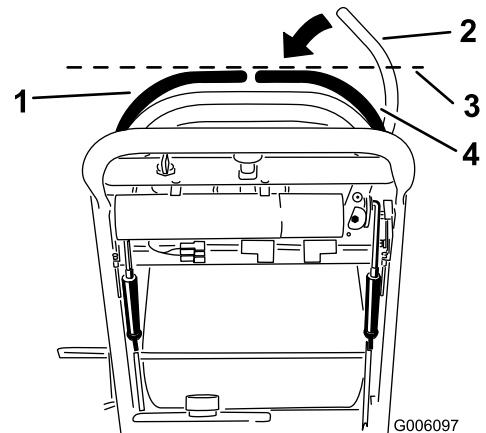

Figure 41
3. Push the right motion control lever down out of locked neutral position (Figure 41).
4. Check if it aligns horizontally with the left motion control lever (Figure 41).